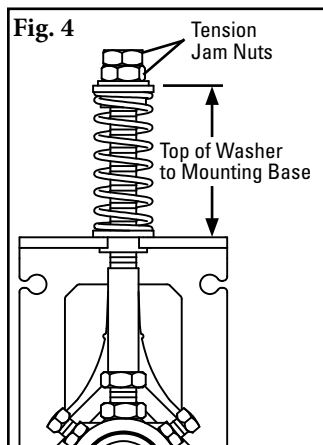

Fig. 4
4. **Secure pole.** Center pole/blades on belt and rotate pole until blades are perpendicular to belt. Tighten the two locking bolts and nuts on each tensioner assembly to lock pole in place (Fig. 4).
Turn adjustment nuts until correct spring compression is reached (Fig. 4). Spring compression is determined by spring length. See chart below for correct spring length for your belt width.